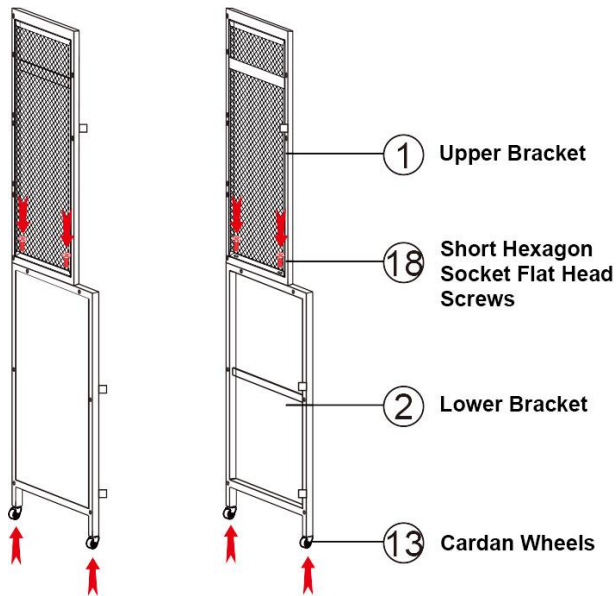

Figure 1
Step1: Screw the Cardan wheels into the lower bracket, and then fix the upper and lower brackets with Short hexagon socket flat head screws, as shown in Figure 1;